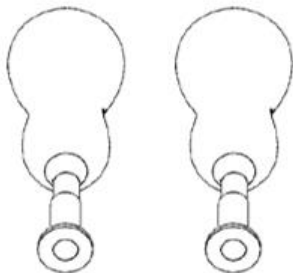

Figure 6
1. Remove two refill bottles from the ViraWarn Patriot box (**Figure 6**).